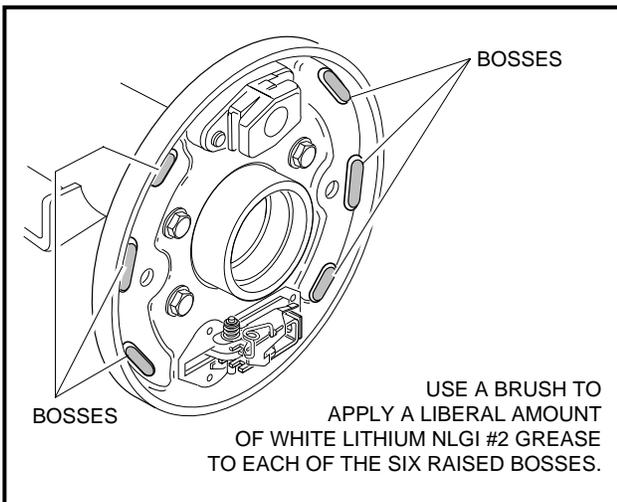

Figure 6-9 Apply Grease On Bosses
- Use a brush to apply a liberal amount of white lithium NLGI #2 grease (Dow Corning® BR2-Plus or equivalent) on each of the six raised bosses on the brake backing plate (**Figure 6-9, Page 6-6**). **See previous WARNING.**